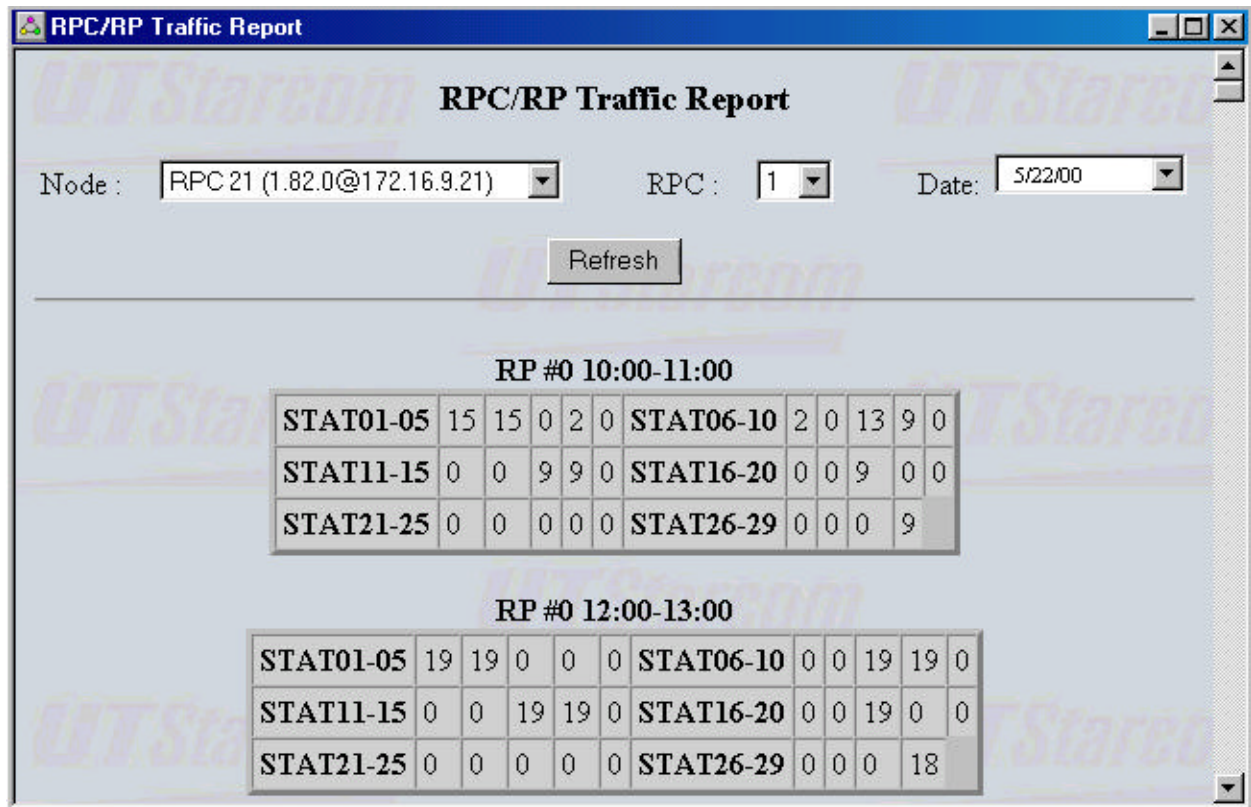

Figure 4-70: RPC/RP Traffic Report Window
- Figure 4-70 presents the traffic report for each of the 32 associated RPs. The report is organized in such a way that each block displays all the 29 traffic statistics elements for an RP for the period of one hour. Refer to the following figure for the description of each of the 29 statistics elements.